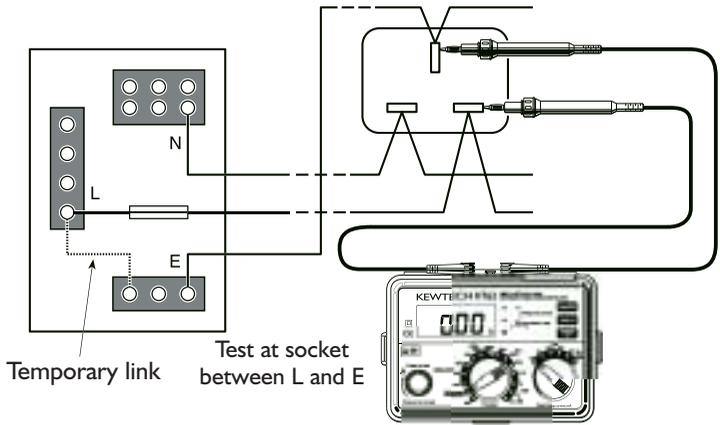

Fig 3
- 5 Connect the test leads to the circuit whose resistance is required (see Fig 3 for a typical connection arrangement), having first made sure **that the circuit is not live**. Note that the live circuit warning lamp will illuminate if the circuit is live - but check first anyway!